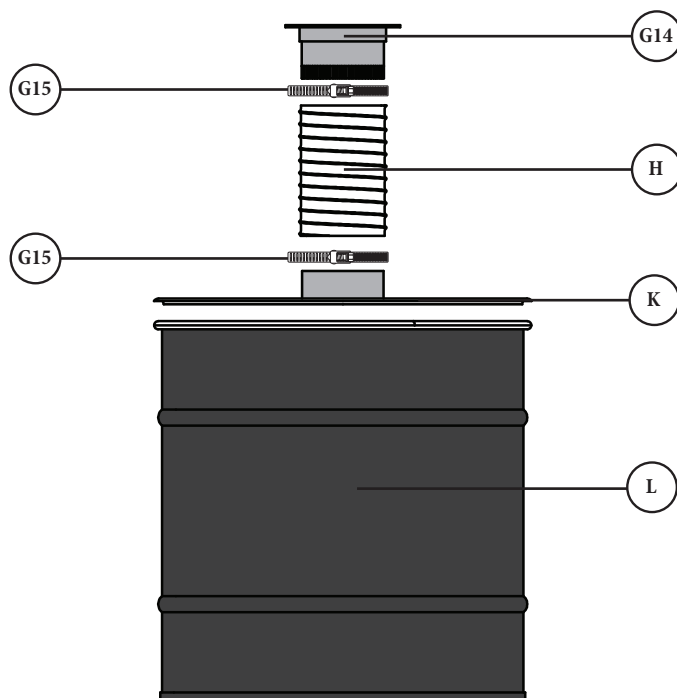

FIG. 26
Attach the Flex Hose (H) to the inlet on the Drum Lid (K) and secure it in place using a Hose Clamp (G15). Loosely place a second Hose Clamp (G15) onto the hose and then move the Drum (L) underneath the Wall Bracket (F). Connect the Flex Hose (H) to the Collar (G14) and secure in place using the additional Hose Clamp (G15) [FIG. 26].